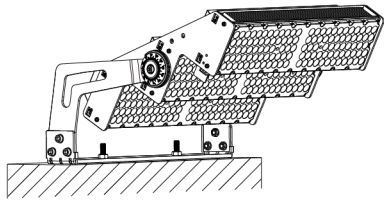

Fig.1
- A :Punch two holes with a spacing of 260mm(Fig.1)